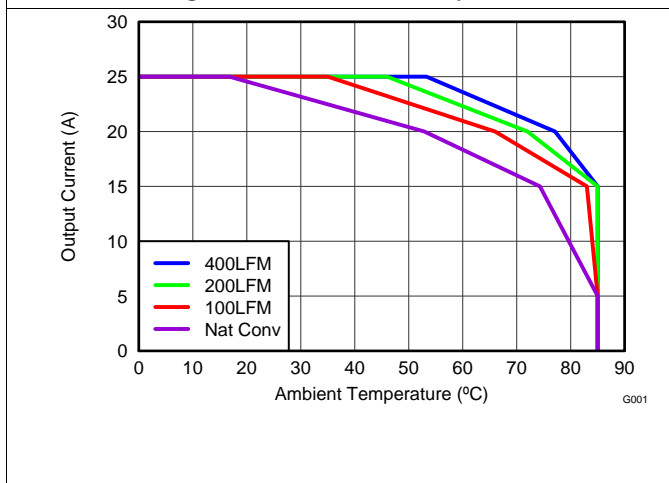
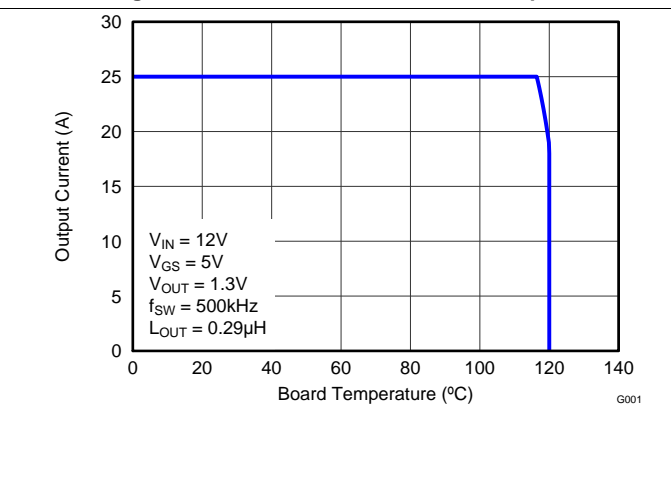

Figure 3. Safe Operating Area – PCB Horizontal Mount
Figure 4. Typical Safe Operating Area
$T_J = 125^{\circ}\text{C}$, unless stated otherwise. The Typical Power Block System Characteristic curves Figure 3 and Figure 4 are based on measurements made on a PCB design with dimensions of 4.0 inches (W) × 3.5 inches (L) × 0.062 inch (H) and 6 copper layers of 1 oz. copper thickness. See Application and Implementation for detailed explanation.
$T_J = 125^\circ\text{C}$, unless stated otherwise. The Typical Power Block System Characteristic curves Figure 3 and Figure 4 are based on measurements made on a PCB design with dimensions of 4.0 inches (W) \times 3.5 inches (L) \times 0.062 inch (H) and 6 copper layers of 1 oz. copper thickness. See Application and Implementation for detailed explanation.
The SOA curves in the CSD87588N data sheet provide guidance on the temperature boundaries within an operating system by incorporating the thermal resistance and system power loss. Figure 3 to Figure 4 outline the temperature and airflow conditions required for a given load current. The area under the curve dictates the safe operating area. All the curves are based on measurements made on a PCB design with dimensions of 4 inches (W) x 3.5 inches (L) x 0.062 inch (T) and 6 copper layers of 1 oz. copper thickness.